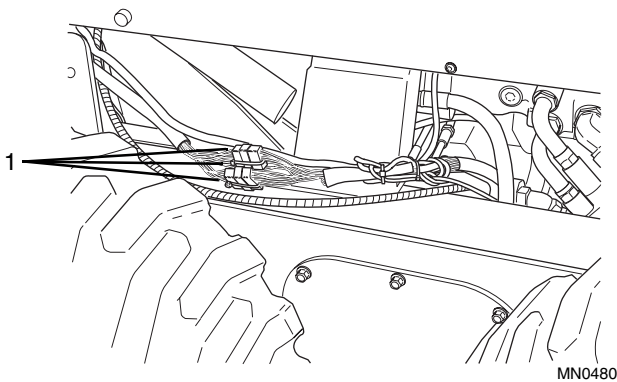

Figure 9-27 Wiring Harness Connectors
4. Disconnect three electrical harness connectors (Fig. 9-27, 1).